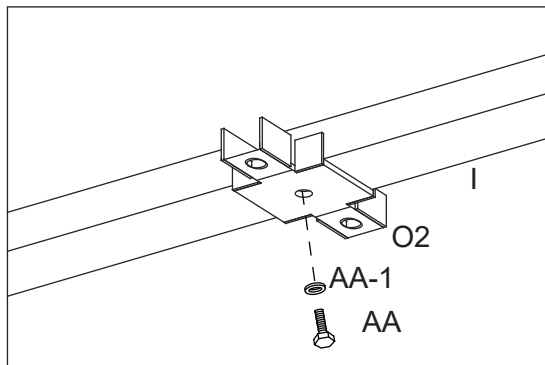

Figure 15-1
15.1: Attach Connector (O2) to Main Roof Vertical Center Support (I) using Bolt (AA) and Steel washer (AA-1). See Figure 15-1.